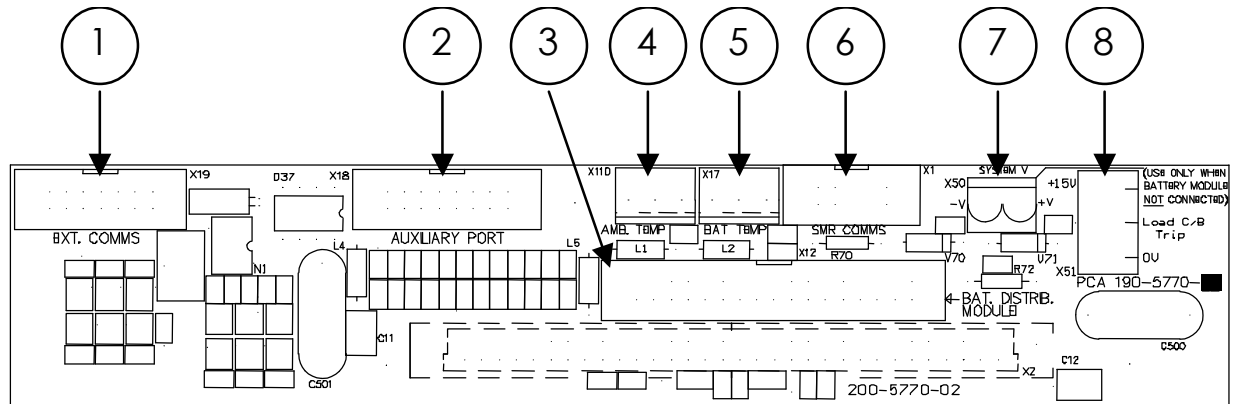

Figure 6. Connections on Controller backplane
The optional sensors for measuring ambient and battery temperature are the same device (Part No. 385-5941-03). The system auto-detects if the sensor is plugged into one of the positions (4) or (5) shown in Figure 6. If no sensor is installed, the Controller will show “Not Available” in the menu items for the temperature measurements. Locate the ambient sensor on a large thermal mass, such as the equipment rack; this will prevent large swings in temperature readings. Locate the battery sensor on a battery block in the middle shelf of the battery bank (likely hot zone). The battery temperature sensors are connected directly to the battery posts using the integral lug of the temperature sensor. The temperature sensors are galvanically isolated from the lug.